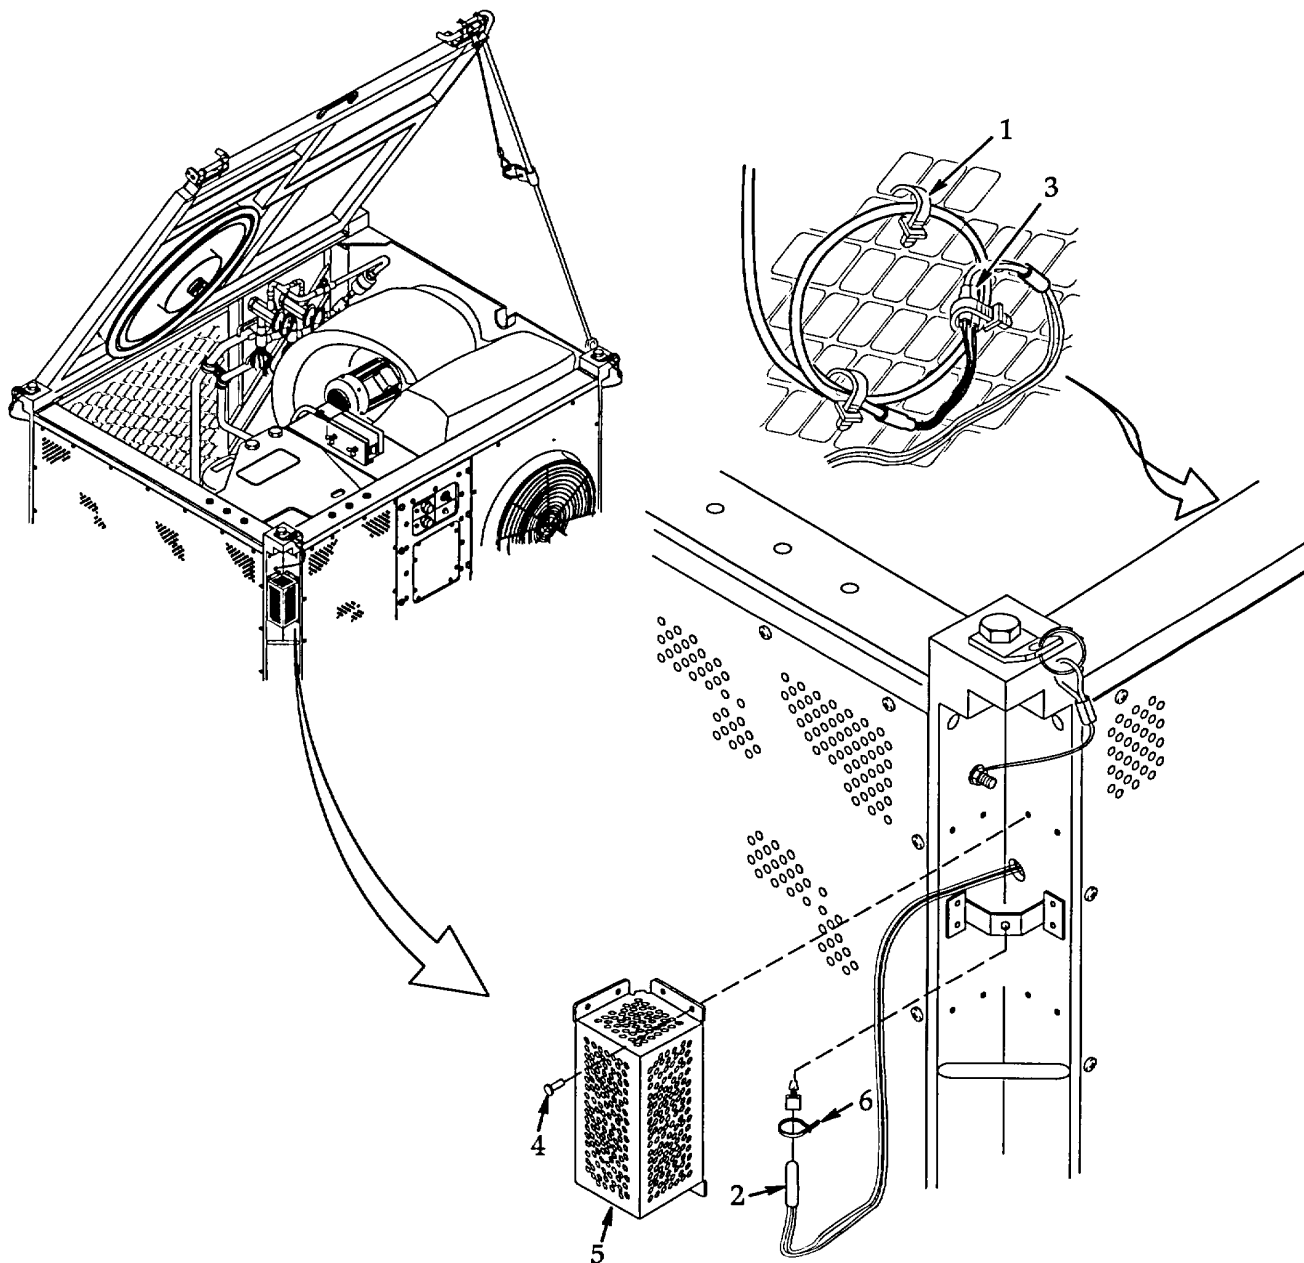

Figure 4-34. Temperature Sensor (RT5).
- a. **Removal.** See figure 4-34.
- (2) Raise and secure cover per paragraph 4.2.
- (3) Cut and remove tiedown strap (1) securing temperature sensor (2) leads. Discard tiedown strap.
- (4) Tag the temperature sensor (2) leads at connection points then cut off and discard two splices (3) to disconnect leads.
- (5) Drill out eight blind rivets (4) using drill with drill bit slightly smaller than rivet diameter. Remove sensor cover (5) and any remaining rivet material.
- (6) Cut and remove tiedown strap (6) securing temperature sensor (2) then pull leads through hole in frame to remove. Discard tiedown strap.
- b. **Installation.** See figure 4-34.
- (1) Carefully push temperature sensor (2) leads through hole in frame.
- (2) Secure temperature sensor (2) in place with tiedown strap (6). Cut to remove excess tiedown strap material.